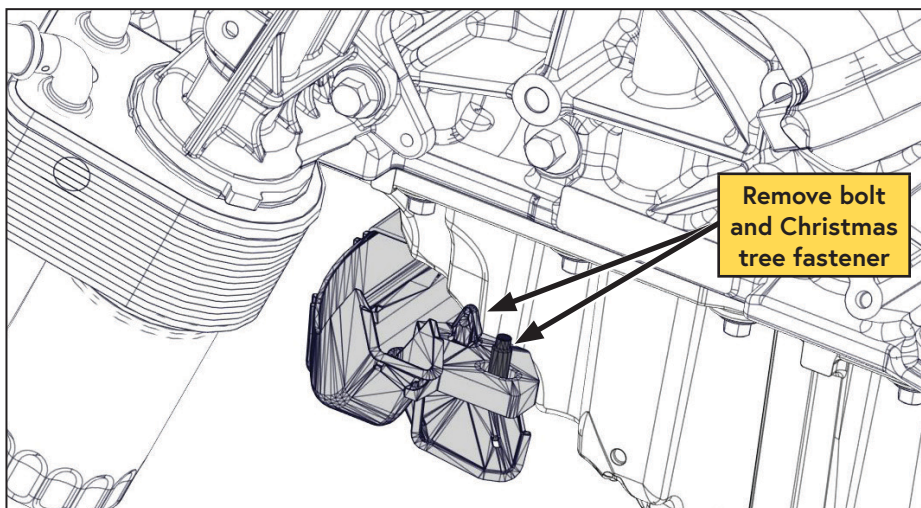

Figure 14 — Remove cable tray
- Remove the bolt and Christmas tree fastener from the driver side cable tray and set them aside for later (Figure 14).